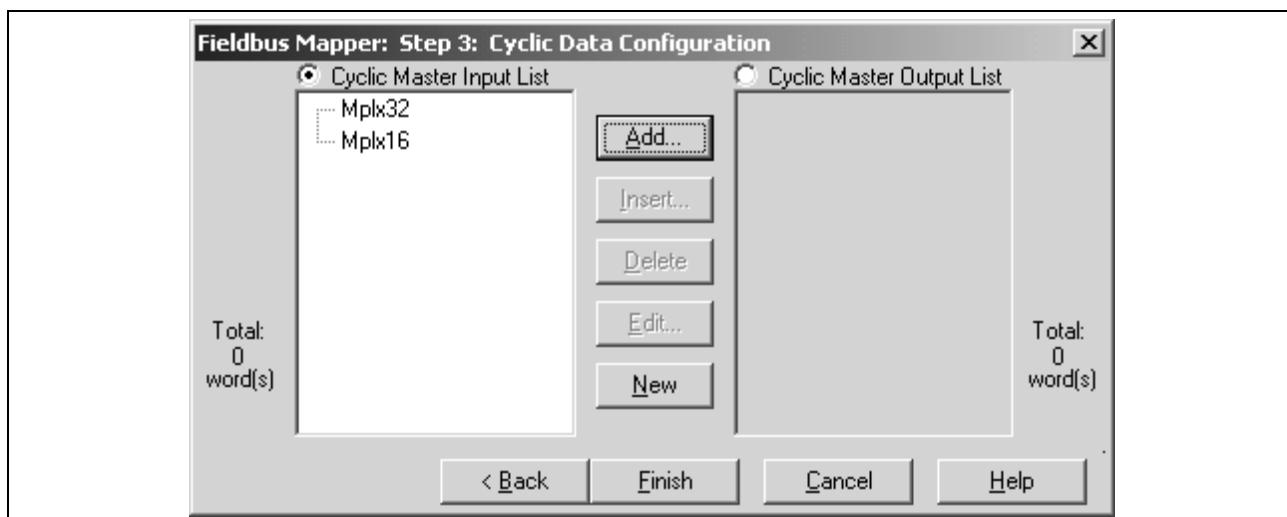

Fig. 7-13: Cyclic Data Configuration, Multiplex Containers
4. Click OK to add the Multiplex Container to the List. The screen in *Fig. 7-13* below is an example where a 16-bit Multiplex Container and a 32-Bit Multiplex Container have been added.